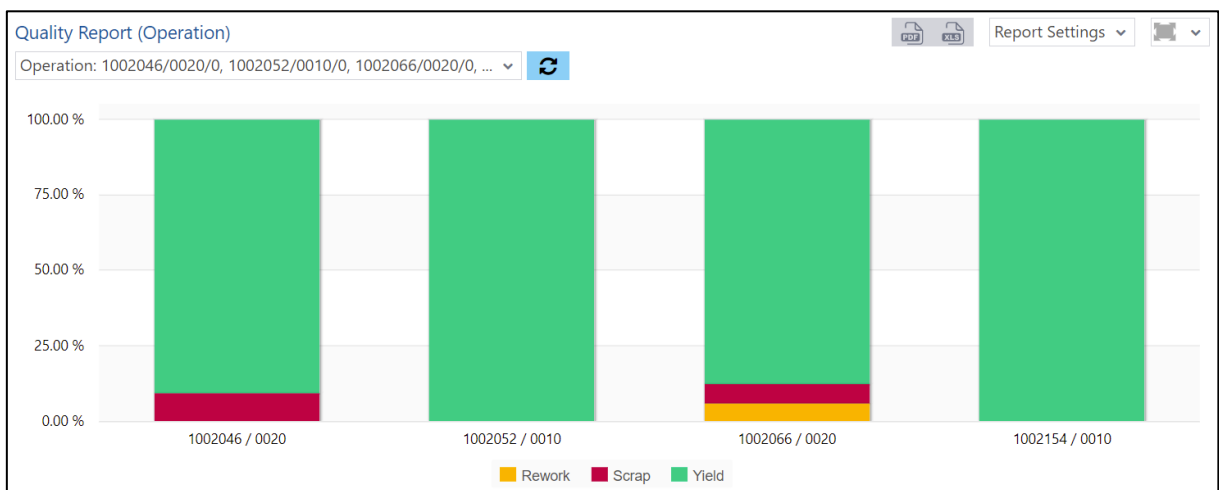

Fig. 129: Quality report (operation) as a column chart
- Quality report (operation) as a column chart (fig. 129):